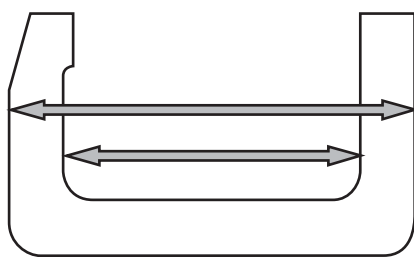

Figure 13
- g. What is the name of the measuring tool that can be used to accurately measure the inside and outside of the body as shown in Figure 13?